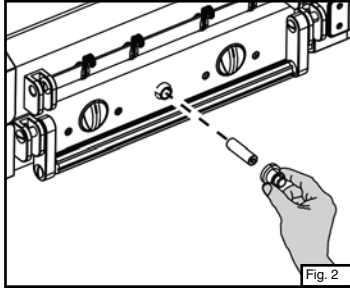

Fig. 2
- NOTE: Use a fresh AAA alkaline battery only. Do not use a nickel cadmium battery. Remove your battery if you won't be using your stove for an extended time period (Fig. 2).